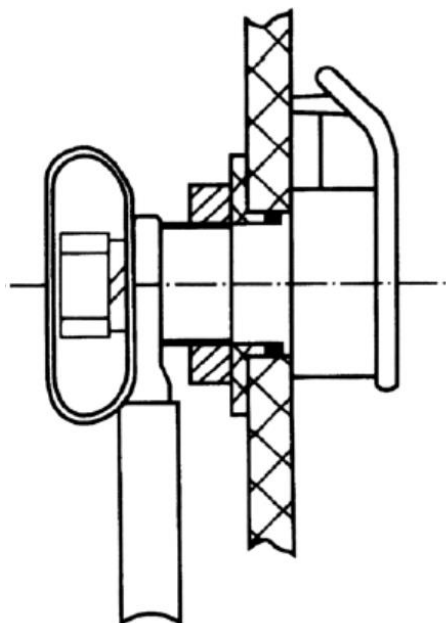
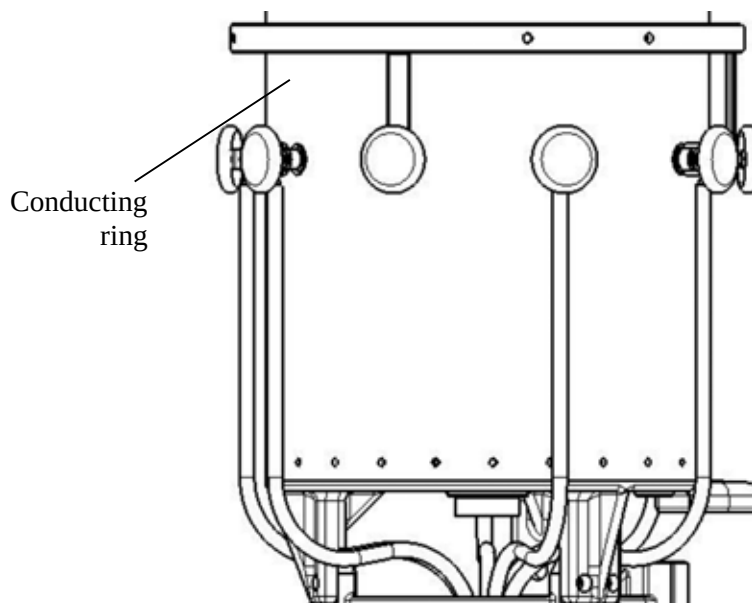

Figure 14 Contact
Figure 15 Conducting ring
- Two connecting wires must be connected to each phase of the diverter switch (six wires have been fixed to the selector before delivery). Tighten the 6 pieces of M10 hexagon bolt (8mm wrench), torque 28 to 34 N.m. (Figures 14&15)
- 1) III-500/600 & I-1200/1500 tap selector's lead wires (6 in total, Figure 15) must be connected to the diverter switch contact led-out terminal (with holes for M10, Figure 14).